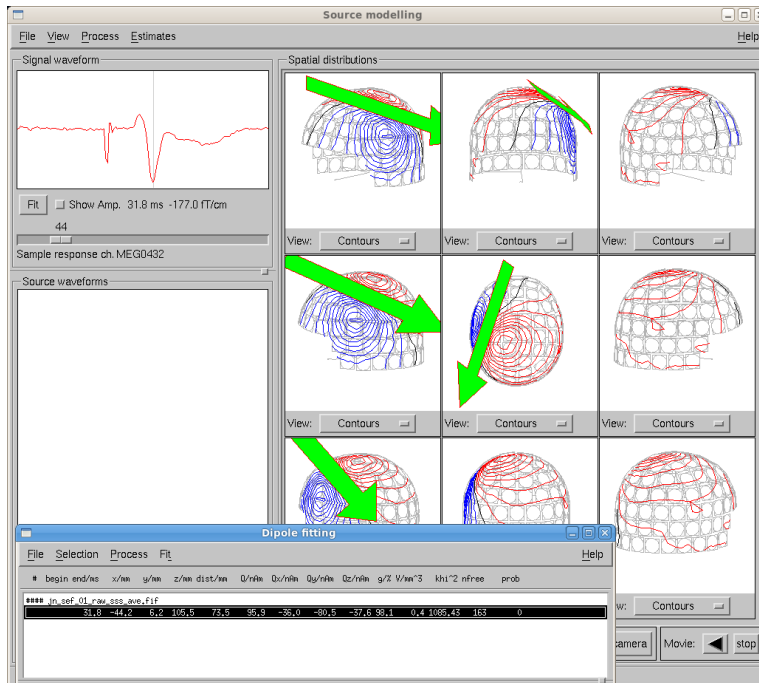

Figure 34: Xfit single dipole fitting at the 31 ms peak of somatosensory evoked responses, after selecting the channels on the left hemisphere.
- View the **Signal waveform** in the upper-left corner of the main window (Figure 34).
- A Dipole fitting window will appear containing all the location and statistical parameters of your dipole (Figure 34).
- (1) Time point or time range where the dipole was fitted.
- (2) Cartesian x-, y- and z coordinate of the source estimate.
- (3) Distance of the dipole from the sphere model origin.
- (4) The dipole moment [nAm].
- (5) x, y and z-components of the dipole moment vector.
- (6) Goodness of fit (g-value), or how large fraction of the variance of the measured data is accounted for by the dipole.
- (7) Confidence volume within which the dipole should lie with 95% certainty (sphere model).
- (8) Khi-square (χ^2) statistics and the number of degrees of freedom of the sphere model.